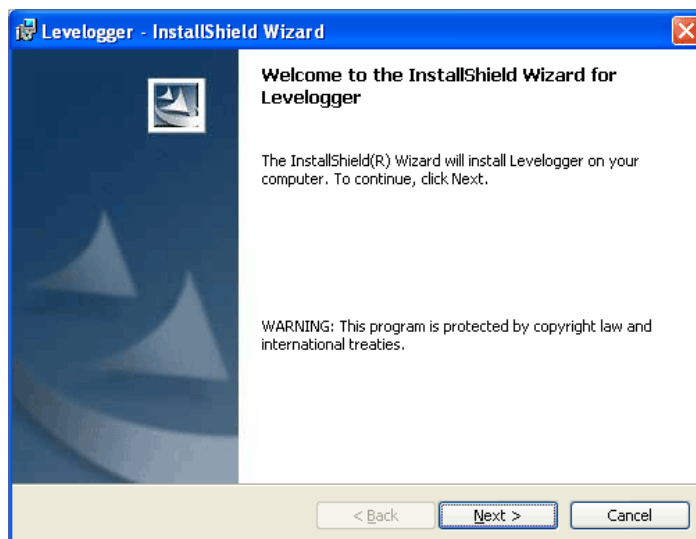

Figure 7-1 Software Installation Wizard
- 3) The Software Installation Wizard will guide you through the remaining installation process. Figure 7-1 shows the Levellogger Installation Wizard.